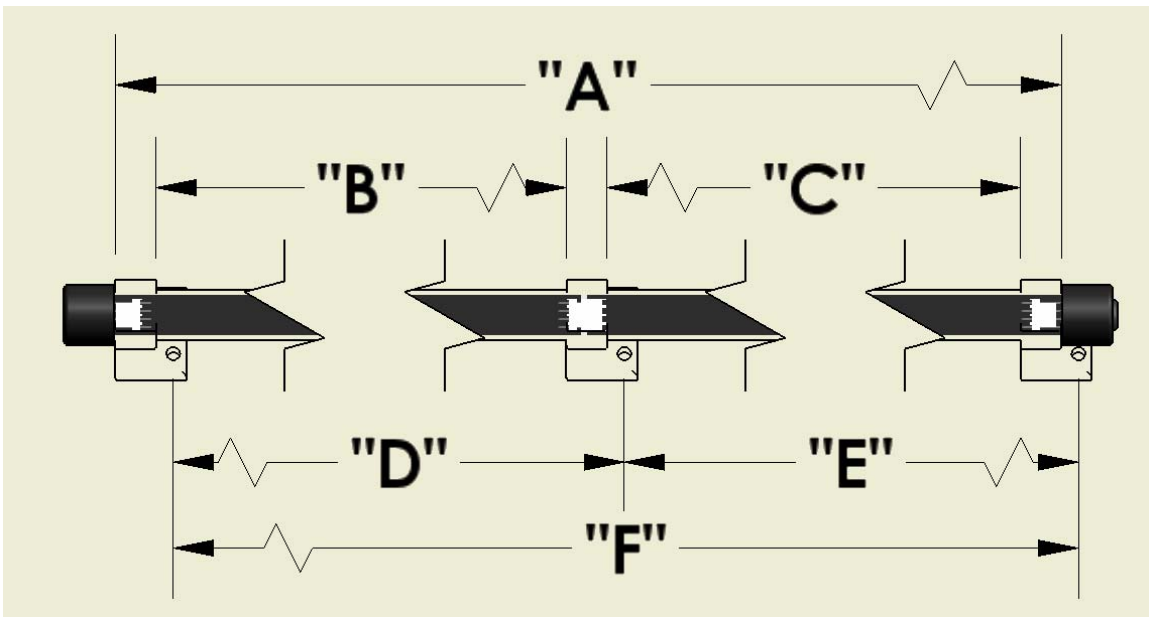

Fig. 1c
4. The provided mounting clips should be positioned directly around the clear tubing just below the black end cap if possible, on the 9" and 18" models. (Fig. 1a) On the 27", 36" and 54" models, position 2 mounting clips as mentioned above and one clip at each printed circuit board bridge connector. (Fig. 1b) Refer to the following table and image for recommended mounting clip location and mounting hole center to center dimensions. (Table 1 & Fig. 1c)